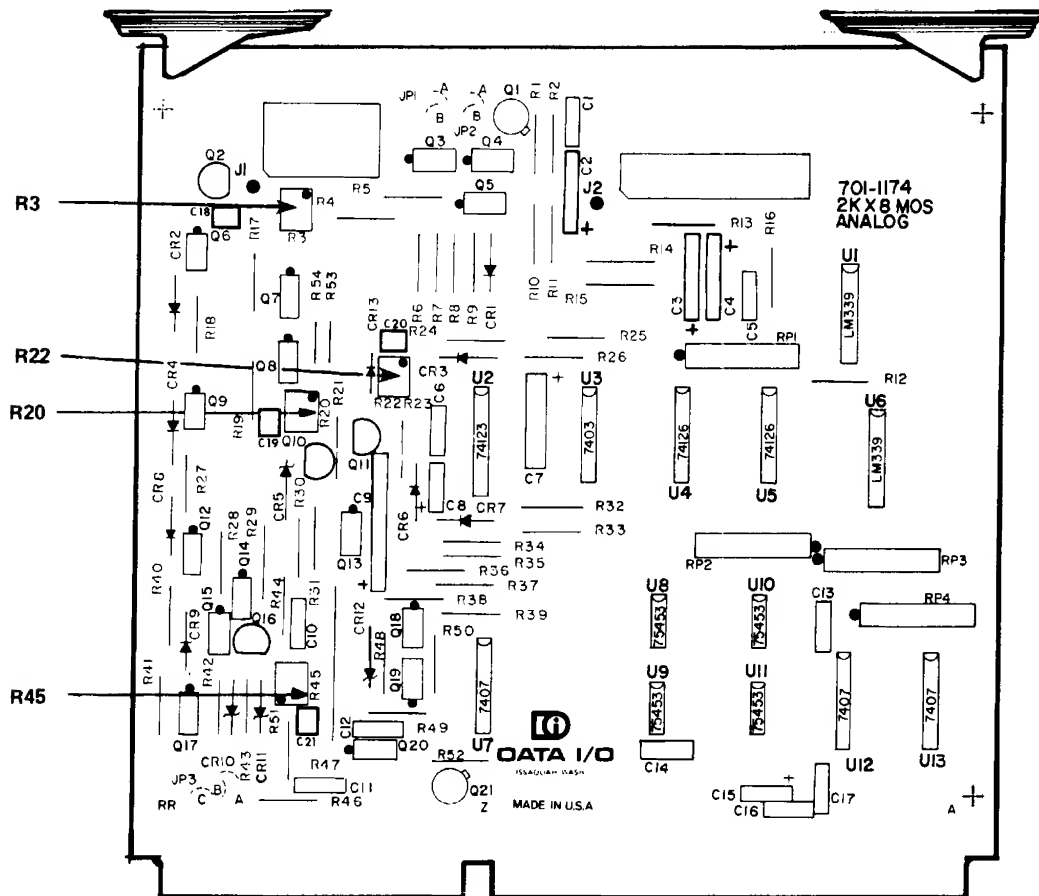

Figure 4-4. Analog Card Adjustment Locations
- The ADJUSTMENT column calls out potentiometer designations. The first four entries in the ADJ column refer to power supply potentiometers located on the power supply board of the programmer. The remaining entries in the ADJ column refer to potentiometers on the analog card. Refer to Figure 4-4 for locations of the potentiometers.